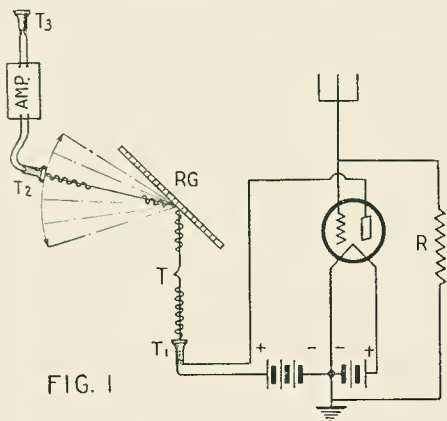

FIG. 1
Under the latter general method of procedure, interest attaches to an invention of Dr. Greenleaf W. Pickard of Boston, whose contrivance (see Fig. 1) challenges our imagination and invites, as well, serious attention because of its possibilities. Bearing similarity to violin strings, a reflection grating (RG) is employed, composed of wood or metal slats, these being in tune or harmony with the air-wave frequency of the particular radio communication to be received. These improvised violin strings are supposed to select certain tones; and the notes of static, being of extremely low frequency, do not set the violin strings in vibration and thus atmospheric disturbances are segregated from radio signals. "Interference Preventer" is the name chosen by the inventor for this device and, in handling sound waves, he compares its functioning to that of an optical method. The electric ether waves, as a preliminary to their segregation from static, are transformed into short air-waves. In the final analysis, this tuned grating of wood or metal slats concentrates the desired air-waves in a definite direction while the interfering air-waves are destroyed or dispersed. (U. S. Patent No. 1,460,439.)